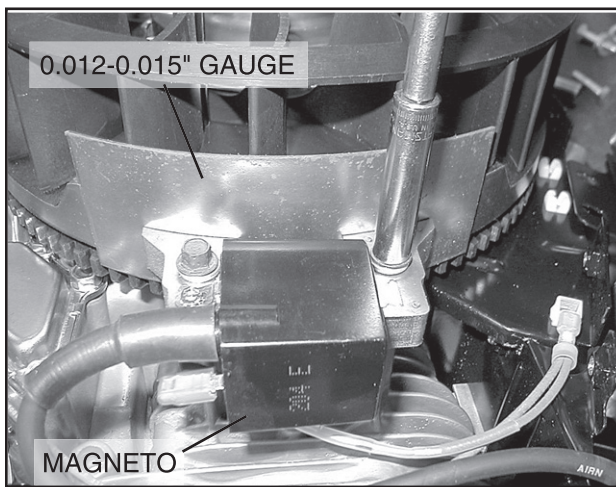

Figure 7-37. – Setting Ignition Magneto (Armature) Air Gap
- Rotate the flywheel until the magnet is under the module (armature) laminations (see Figure 7-37).